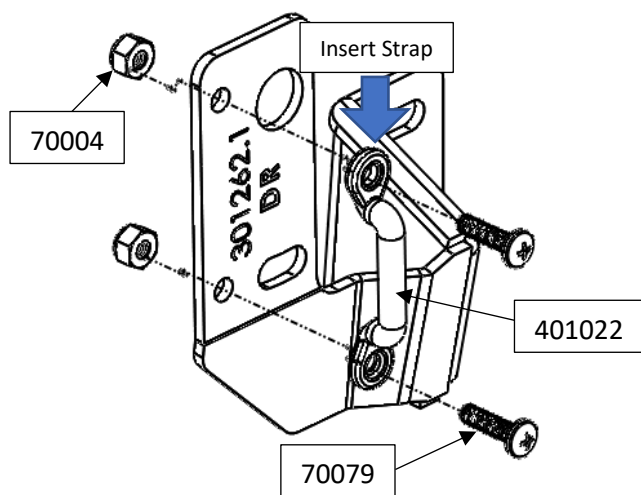

Figure 12: Installation of Webbing Anchor onto Bracket
29. Install the webbing anchor onto the lower hinge bracket. Be sure to first thread the anchor through the desired position on the adjustable strap (reference Figure 12 - 13).